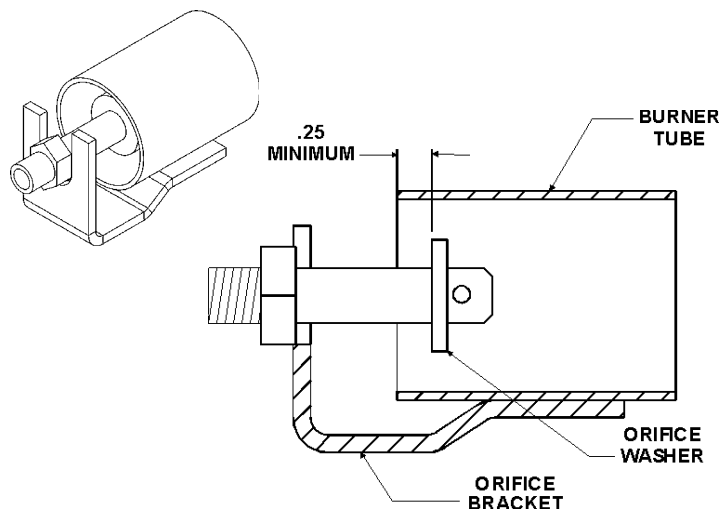

Figure 18. Orifice Insertion
4. Reinstall burners in unit. Ensure that all the screws on the burner flange are tightened securely so that the gasket will provide a good seal. Also, ensure that each orifice is centered with the venturi opening of every burner. **The washer of the orifice must be inserted a minimum of 1/4" into the burner tube. This is critical for proper operation. See Figure 18.**